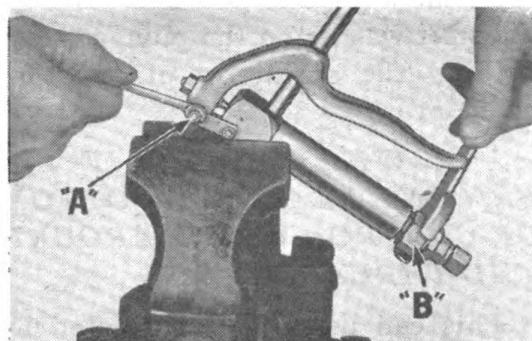
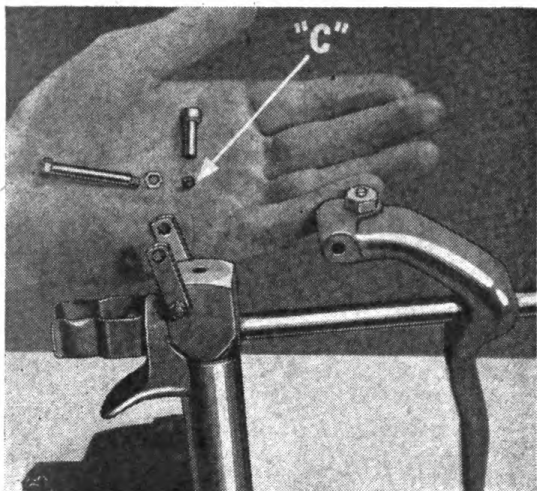

Figure 189
Figure 190
(1) To replace the top leather packing disconnect the toggles and lever at "A" Figure 189 and the spring tension will push out the packing leather ("C" Figure 190).
Relieve the spring tension by unscrewing retaining bushing ("B" Figure 189) about 1/2". Soften new leather in oil and reassemble. If spring tension is not released, it will be difficult to reassemble leather.